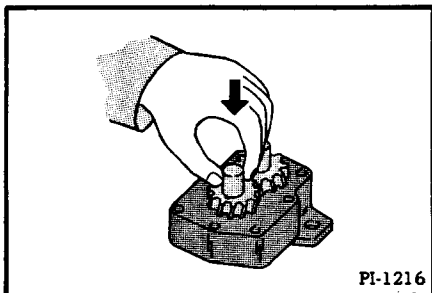

Fig. 141 Installing Idler Gear Assembly
6. Insert the idler gear and shaft assembly (Figure 141).